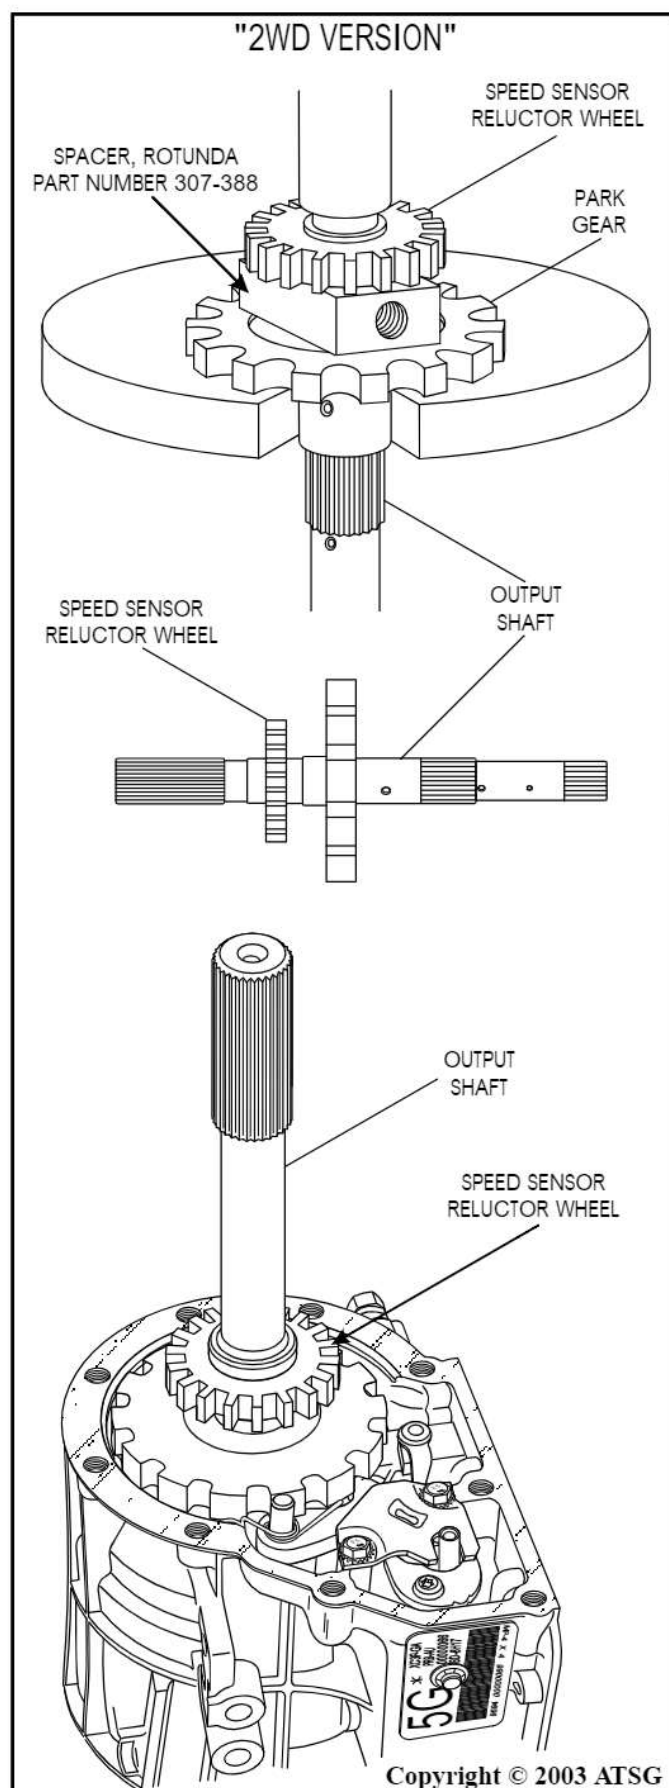

Figure 89
20. The 2WD version is illustrated in Figure 89, and notice that it has a speed sensor reductor wheel pressed on next to the park gear, which is also a press fit on the output shaft.